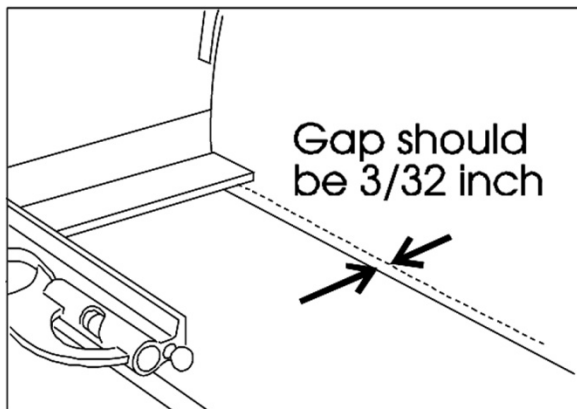

Figure 18: Table-to-disc gap measurement.
4. Slide the disc in or out along its shaft until the table-to-disc gap is $3/32$ inch (See Figure 18).